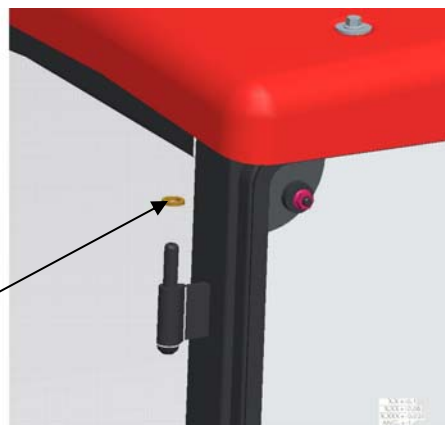

Figure 1
1. Install brass washers on all 4 door pins. See Figure 1.